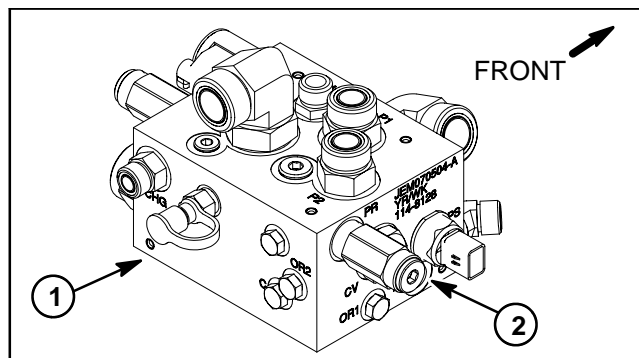

Figure 39
7. The pressure reducing valve (PR) is located on the right side of the 4WD/2WD control manifold in the PR port (Fig. 39). Adjustment of this valve can be performed as follows: